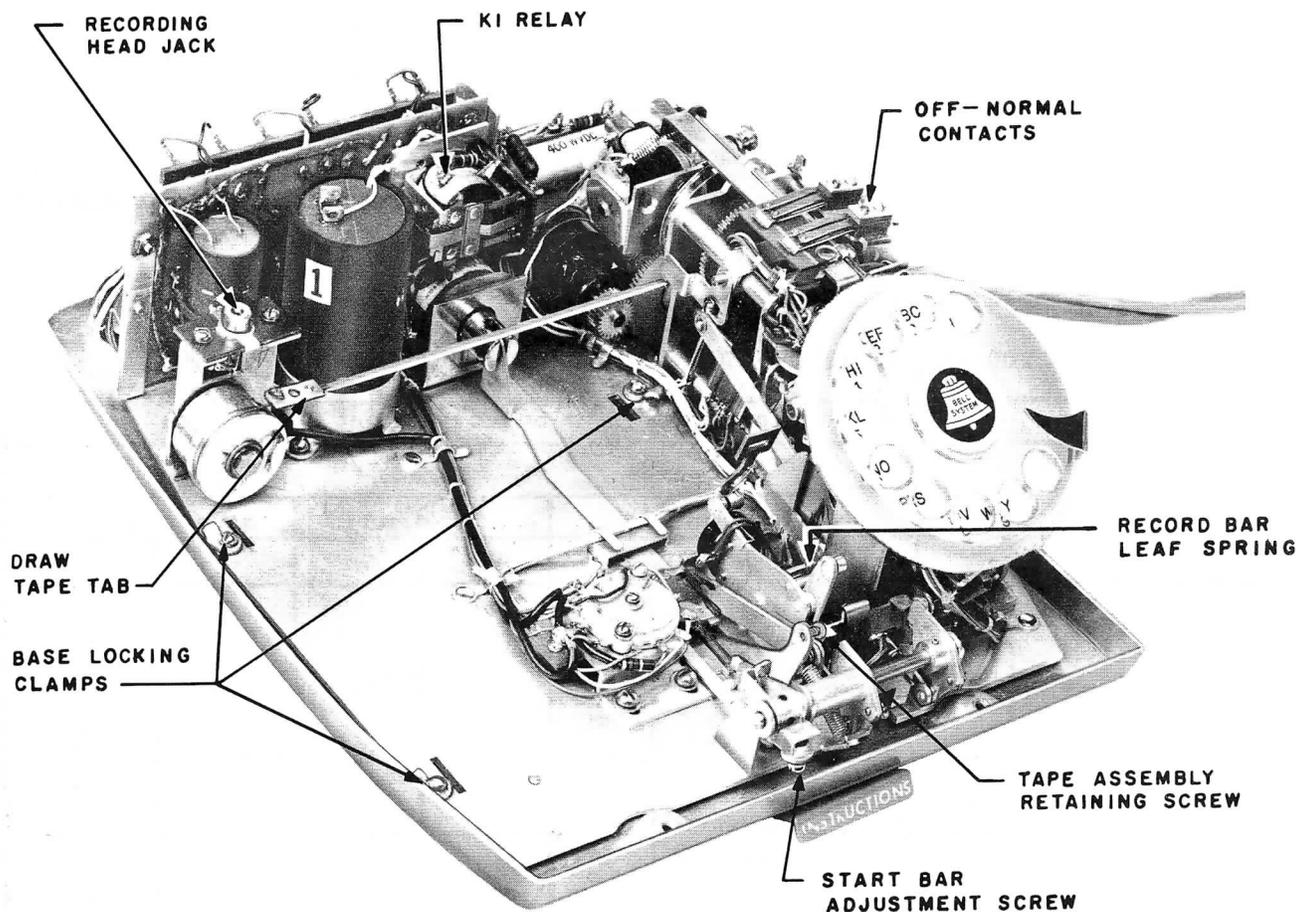
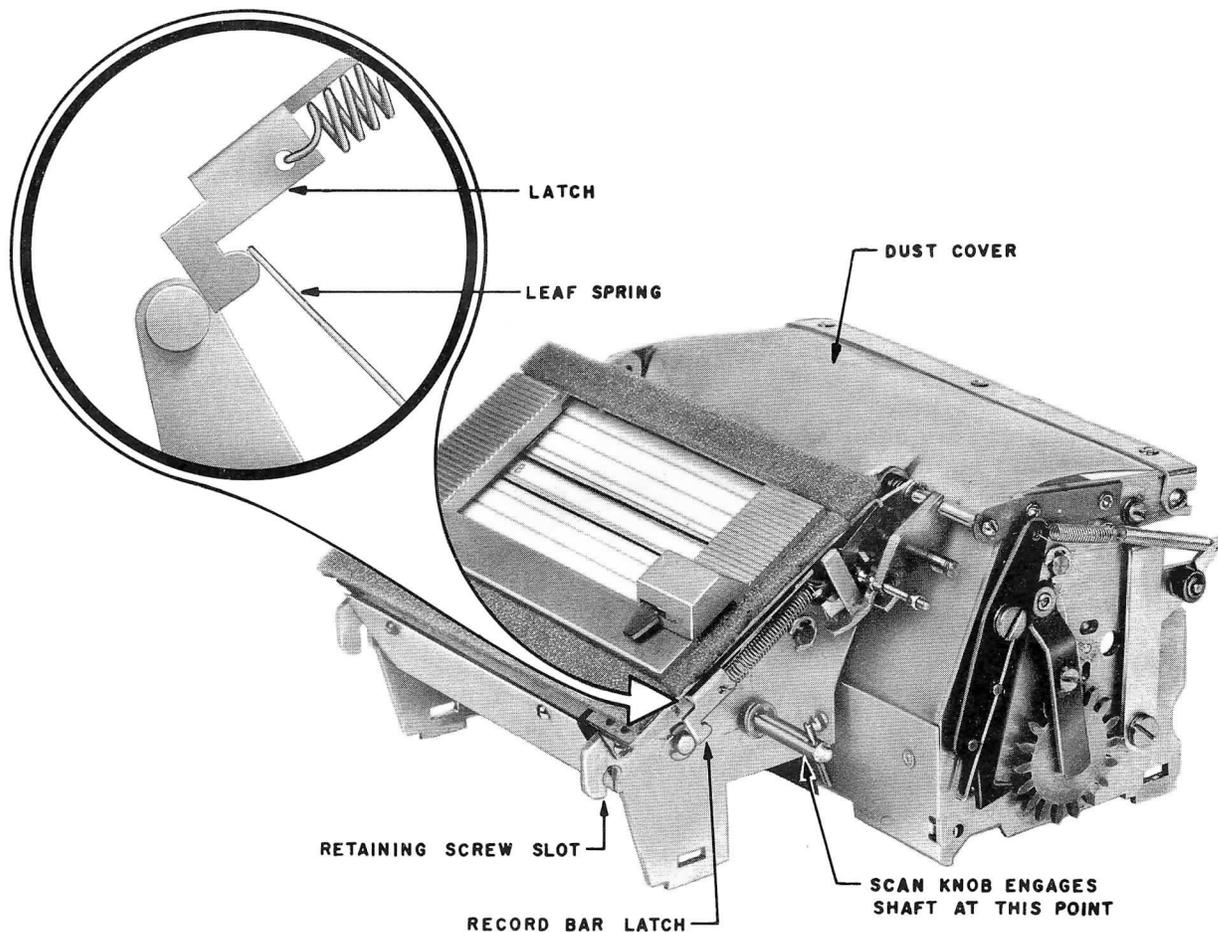

Fig. 7 - KS-16844 Rapidial, List 6 Tape Assembly Removed (Front View)
Fig. 9 - List 6 Tape Assembly, Front View
- Burnish K1 relay contacts (Fig. 7 and 8).
(2) Release three base-locking clamps by turning screws 1/4 turn in counter-clockwise direction (Fig. 7, 8, and 10).
(3) Loosen retaining screw on front right side of tape assembly (Fig. 7, 8, and 9).
(4) Grasp tape assembly with right hand on either side of writing tape window frame. Lift slowly, carefully disengaging recording head carriage pin from hole in draw tape tab (Fig. 7, 8, and 10).
(1) Make certain start bar mechanism is not operated. If operated, plug in power cord momentarily until Rapidial has recycled.
(2) Grasp tape assembly as explained in 6.04. Carefully lower tape assembly into position, making certain recording head carriage pin properly engages hole in draw tape tab (Fig. 7, 8, and 10).
(3) Lift front of tape assembly sufficiently to allow record bar leaf spring to clear record bar latch. Hold spring up with 3-1/2 inch screwdriver and lower front of tape assembly into position, allowing record bar leaf spring to rest upon record bar latch (Fig. 7, 8, and 9).
(4) Grasp in right hand and position tape assembly over unit.
(5) Place wiring from motor around the front and left side of the cartridge assembly.
(6) Lower tape assembly onto base, carefully engaging recording head pin in hole in draw tape tab.
- (7) Line up tape assembly so all four lugs fall in base slots.
- (8) Lift front of tape assembly approximately 3/4 inch and push record bar leaf spring back (with 3-1/2 inch screwdriver) about 1/2 inch.
- (9) Lower tape assembly, allowing spring to rest on latch (Fig. 9).
- (10) Be sure all lugs on tape assembly are engaged with base slots.
- (11) Secure base locking clamps (Fig. 7).
- (12) Secure tape assembly retaining screw.